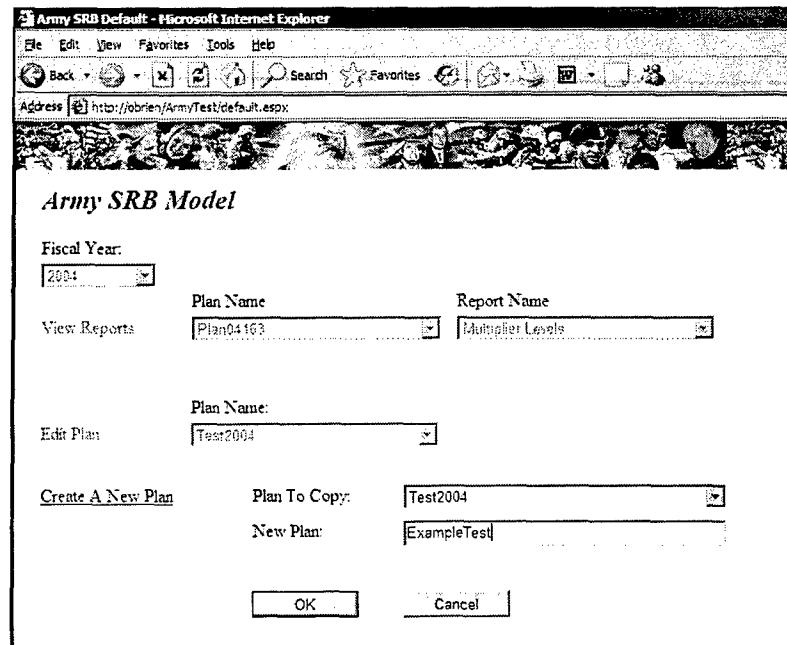

Figure 41. Entering New Plan Name
4. Figure 41 illustrates this process. The user has just created a new plan called *ExampleTest*. It is a copy of the existing plan *Test2004*.